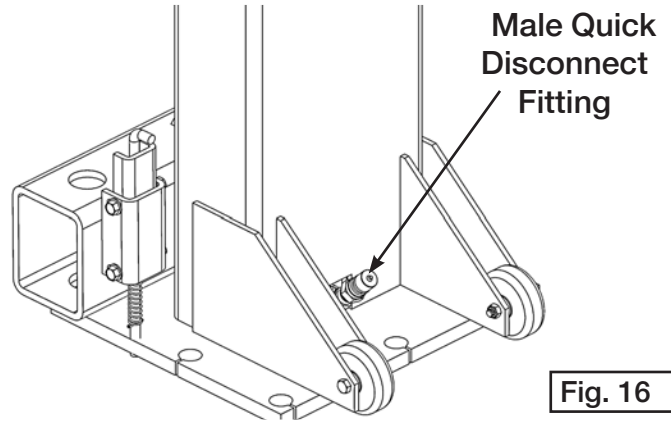

Fig. 16
1. Thread the male quick disconnect fittings onto the rear cylinder fittings using teflon tape on the pipe threads. (See figure 16)